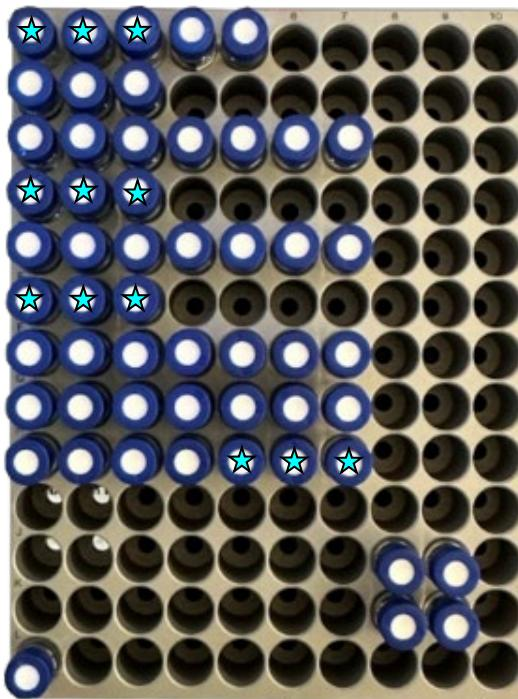

Figure 60: Run Sequence with Standards
2. The standards must be run one after another at the beginning of each sequence to be analyzed. The post processing software works sequentially and therefore requires the linearity of the known standards before it can correct the unknown values of the samples. It is recommended to include standards in the middle and end of the sample set as controls. An example is shown (Figure 60), vials with the CYAN stars indicate the standards: